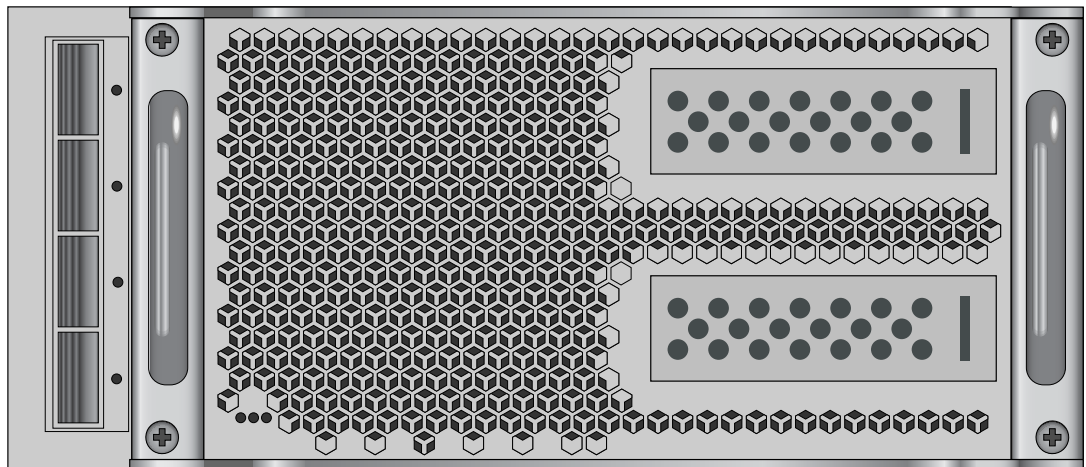

Figure 1-8 PCIe Option Blade Example with Two Low-Profile Slots
- The optional dual low-profile PCIe blade supports two PCIe x16 Gen3 cards. See Figure 1-8 on page 24 for an example.